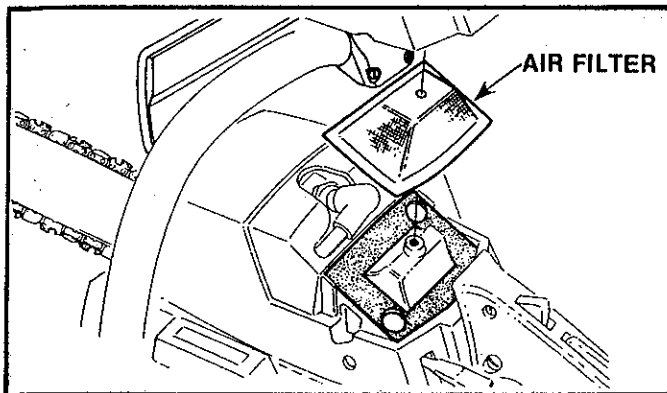

Figure 52
- Remove the carburetor cover. Figure 52 .